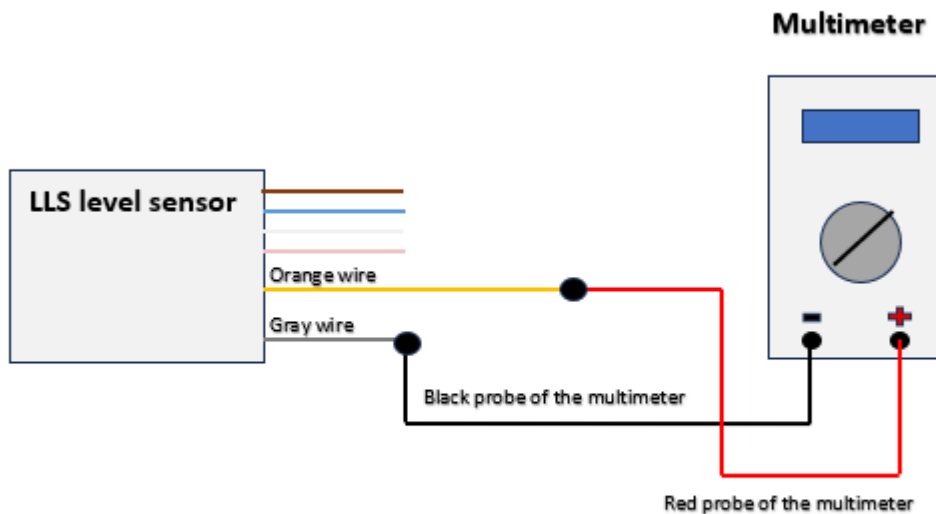

Fig. 10 Connection Diagram
2. Assemble the connection circuit according to "Fig. 10 Connection Diagram".